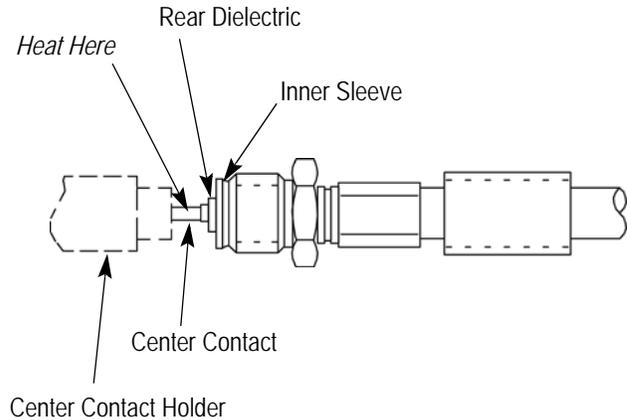

Figure 5
3.3. Soldering of Center Contact to Conductor (Figure 5)